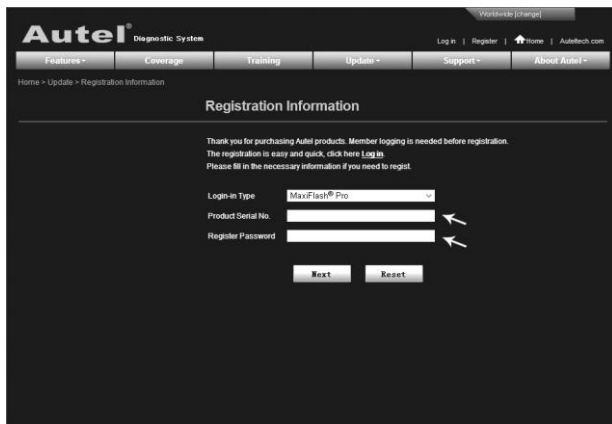

Figure 5.1
4. Put in the Product **Serial No.** and **Register Password**, and click on **Next**. (Figure 5.1)